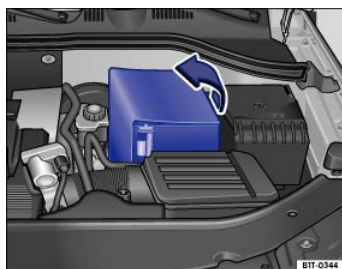

Fig. 176 In the engine compartment: Open the sleeve covering of the vehicle battery.
- Open the sleeve cover to the side ⇒ Fig. 176 (Not for vehicles with 3.6 liter engines).